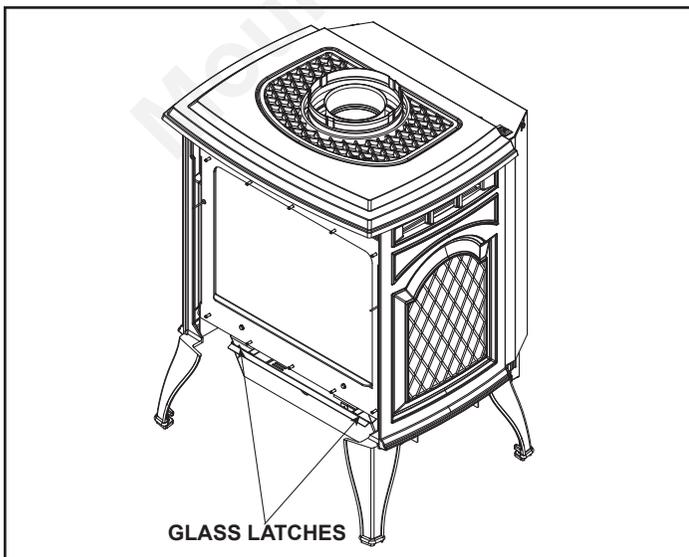

Figure 10.2 - Remove Glass Frame
3. Release both glass latches at the lower corners of the appliance. Remove glass from appliance. See Figure 10.2.